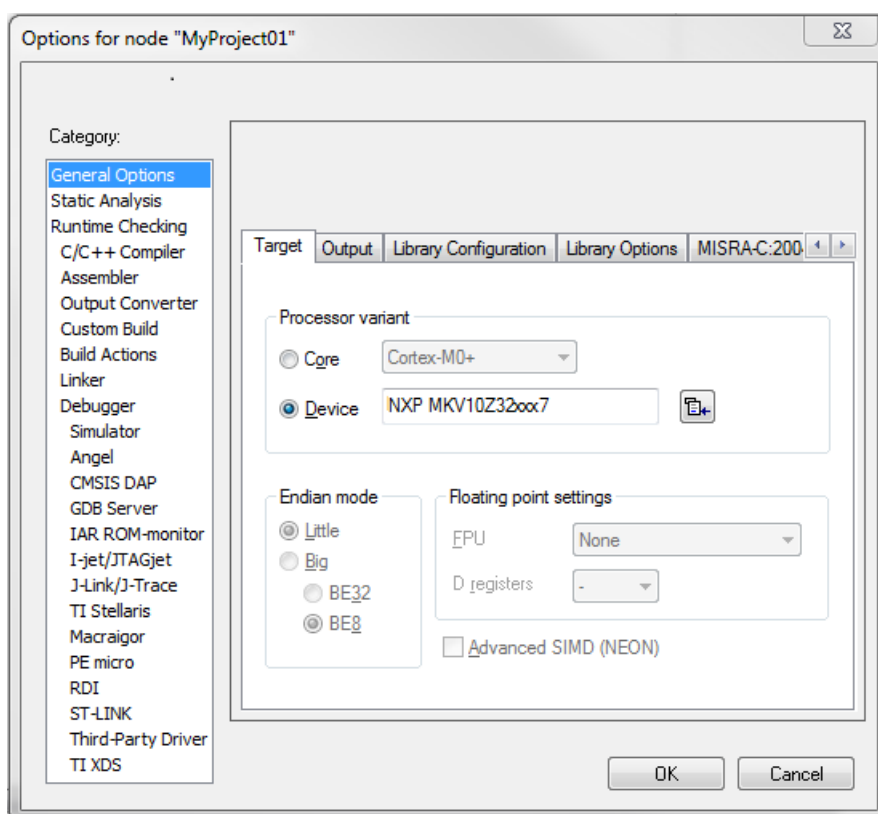

Figure 1-30. Options dialog
6. In the Target tab, select the Device option, and click the button next to the dialog to select the MCU. In this example, select NXP > KV1x > NXP MKV10Z32xxx7 Click OK. See Figure 1-30.